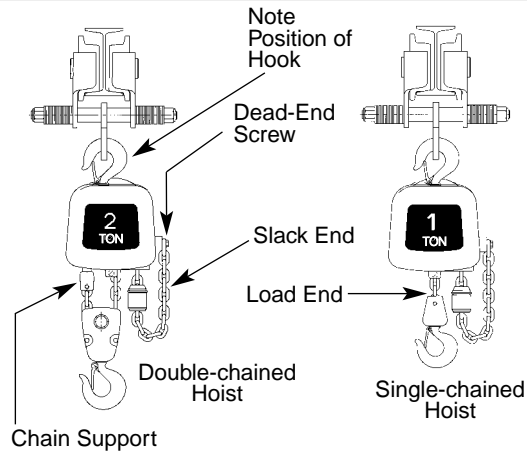

Figure 4 — Chain Replacement Diagram
- Remove the load block assembly from the old chain. On double-chained hoists detach the chain from the chain support and pull it through the load block assembly (See Figure 4).
Refer to Figures 4 and 5.
6. Lay the new chain over the load sheave. Allow about 15" of chain below the hoist on the slack end (See Figure 4). Be sure the welds of the upstanding links are out away from the load sheave and that proper orientation is observed for attachment of the dead end. Also be sure the load hook assembly (if already attached to the chain) is toward the center of the hoist or to your right as you face the load sheave.
8. Place the motor coupling on the splined shaft and carefully fit the two hoist sections together. Be sure the dead-end nut, the top hook and the chain support (double-chained hoists only) are all in place. On single-chained hoists, the hook shank goes in the center hole; on double-chained hoists, it goes in the off-center hole (See Figure 4). Be careful not to pinch any of the wiring. Turn the hoist on its side and replace the four screws and tighten securely.